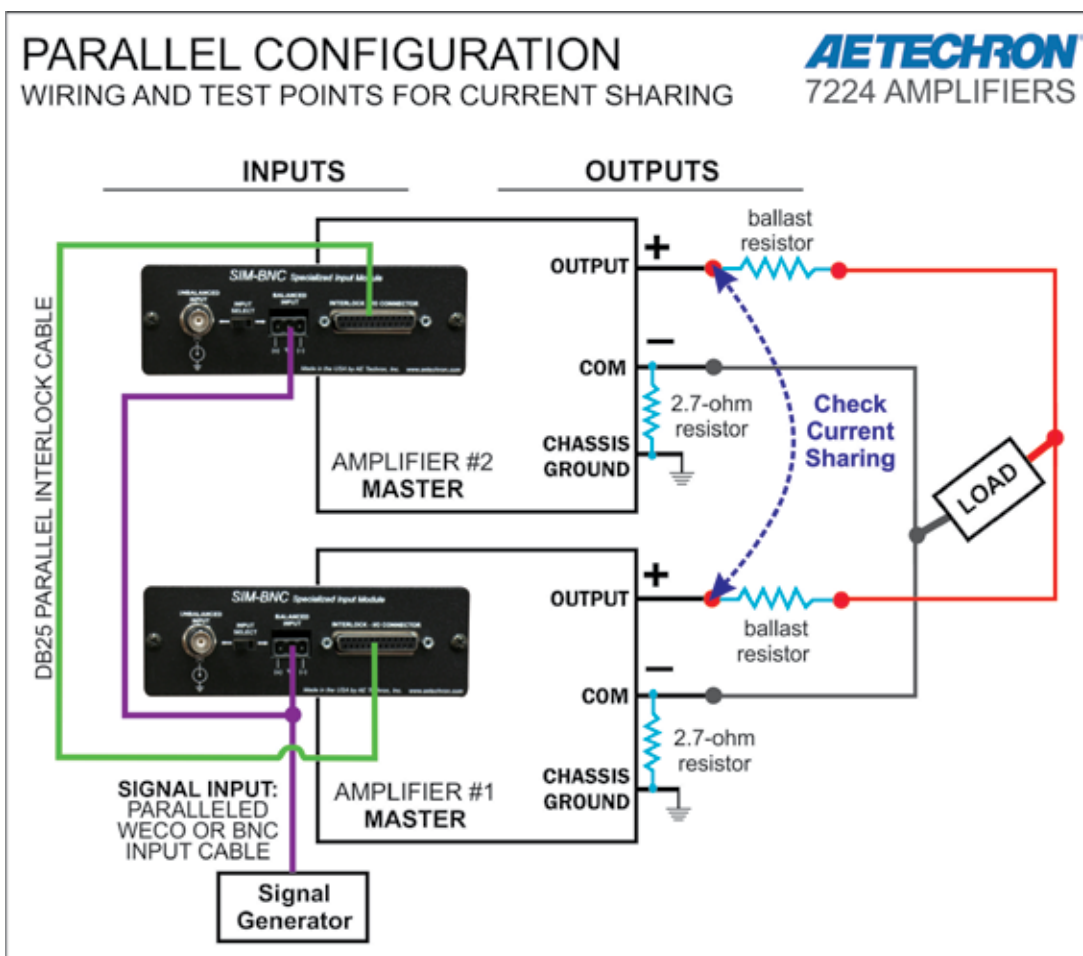

Figure B.2.30 – Wiring and Test Points to Verify Current Sharing
- C. Check to ensure that all system wiring has been correctly installed as shown in **Figure B.2.30**.